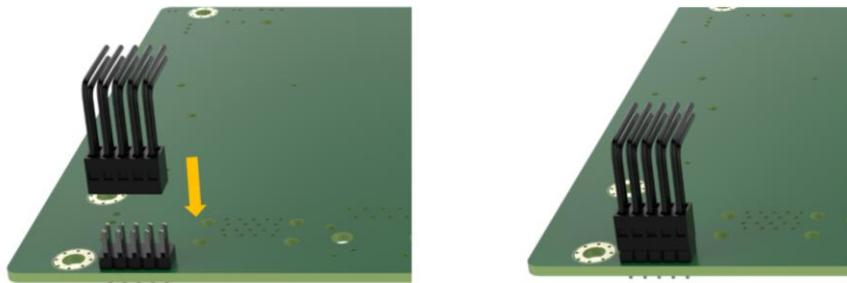

Figure 3-4: RS-232 Cable Installation
Step 2: Connect the serial cable to the serial connector on the mainboard. (Figure 3-4)